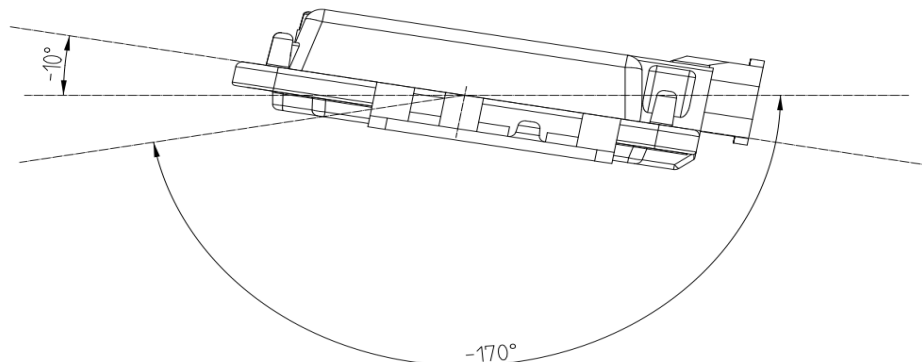
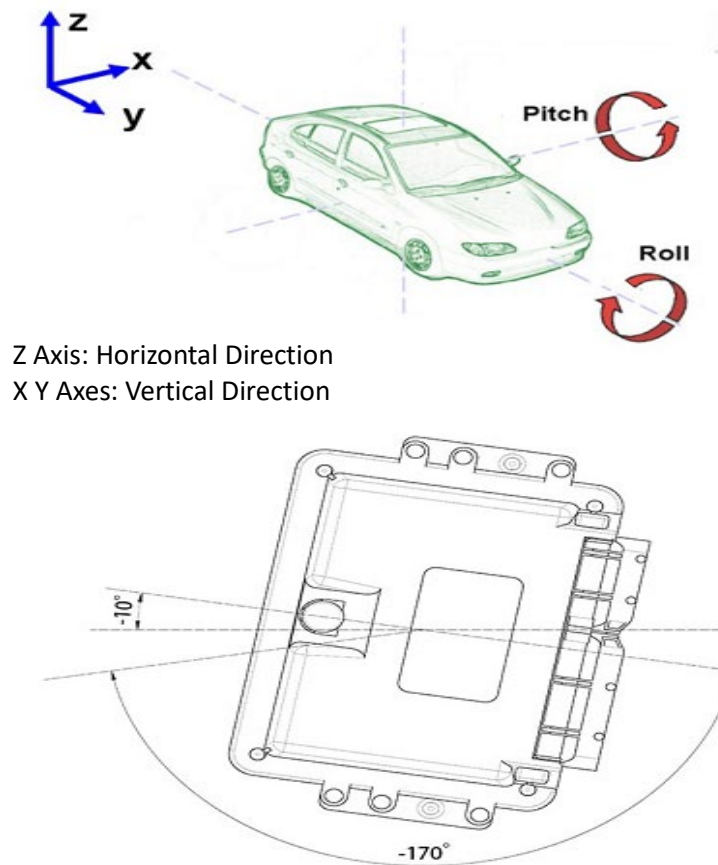

Figure 13 Horizontal Installation Angle
Figure 14 Vertical Installation Angle
8. VCU should be installed in the horizontal and vertical position according to the connector downwards and maintain a certain angle to prevent water from entering the connector. In the horizontal direction, the recommended installation angle is  $-170^{\circ}$  to  $-10^{\circ}$ , as shown in Figure 13 below. In the vertical direction, the recommended installation angle is  $-170^{\circ}$ ~ $-10^{\circ}$ , as shown in Figure 14 below.